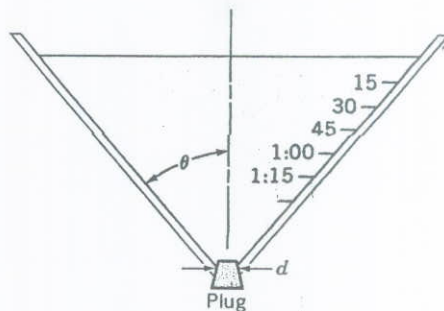

FIGURE P3.87
3.87 An inexpensive timer is to be made from a funnel as indicated in Fig. P3.87. The funnel is filled to the top with water and the plug is removed at time  $t = 0$  to allow the water to run out. Marks are to be placed on the wall of the funnel indicating the time in 15-s intervals, from 0 to 3 min (at which time the funnel becomes empty). If the funnel outlet has a diameter of  $d = 0.1$  in., draw to scale the funnel with the timing marks for funnels with angles of  $\theta = 30, 45,$  and  $60^\circ$ . Repeat the problem if the diameter is changed to 0.05 in.